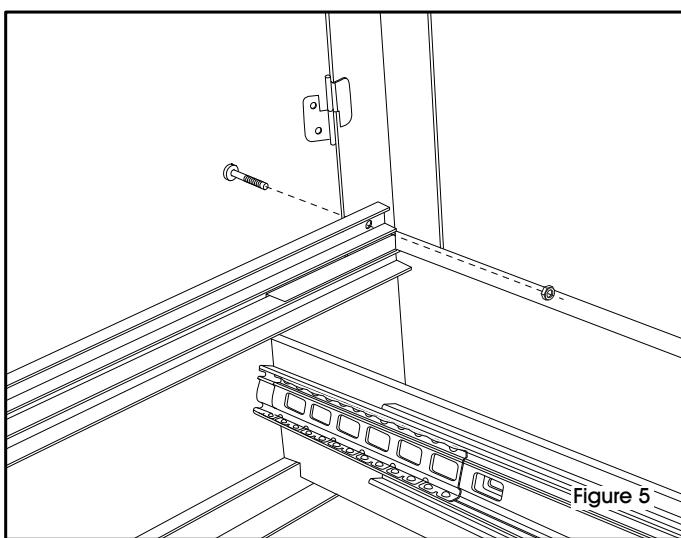

Figure 5
1. Attach front channel with 2 large bolts. (See Figure 5)
Fixez le canal avant en utilisant 2 grands boulons. (Voir la figure 5)